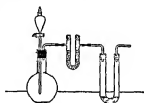

Fig 18
b Fit up a 250 c c flask with a dropping-funnel and exit tube, and connect with a U-tube (Fig 18) Render the apparatus air-tight and test it (?) Fill the U-tube with dry, broken glass or porcelain (why?), mixed with a little red phosphorus (why?)
*b* Use the apparatus in Fig 18. Place in the flask a mixture of finely powdered iodine (20 g) and red phosphorus (1 g) intimately mixed in the mortar. Charge the U-tubes as in 54 *b*. Place a little water in the dropping-funnel (or substitute, 25 *b*), and allow the water to drop very slowly upon them (?). After the air has all been expelled, and the solution in the second U-tube has become sufficiently concentrated, remove the second U-tube. Test the issuing gas with moist a.s. (?) and with ammonia (?) as in 54 *b*. Hold in the gas a piece of filter paper dipped in starch emulsion alone (?). Explain (?). Reserve the contents of the second U-tube for use in 60 *a*.